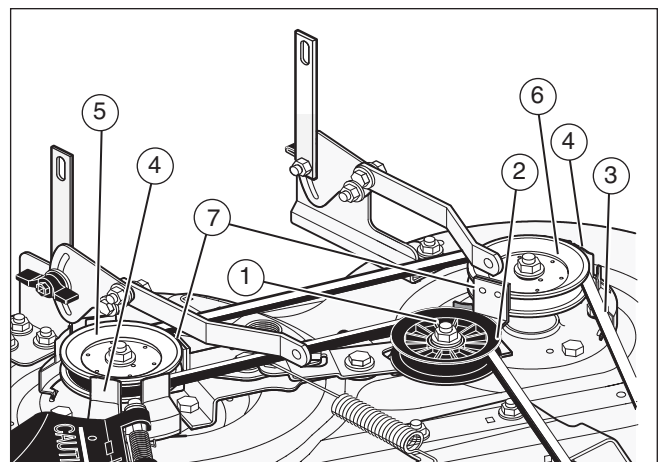

Figure 10
9. Check the operation of the blade brake. Rotate the pulleys with your hand. Make sure the brake pads (7) are pressed tightly against the pulleys (see **Figure 10**).
11. Check the pads for the blade brake (7) (see **Figure 10**). If the pads are excessively worn or damaged, replace the brake pad assemblies. Correct replacement parts and assistance are available from an authorized service center.